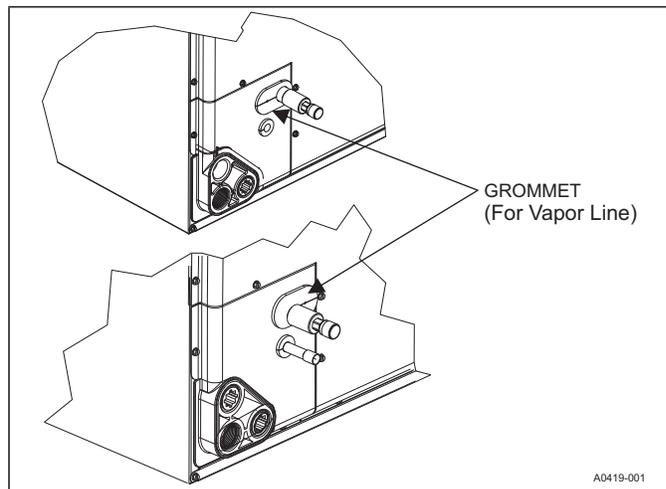

FIGURE 21: Vapor Line Grommet
- Remove grommets where tubes exit the cabinet to prevent burning them during brazing. In some units, the vapor line grommet may be shipped as a loose part with the unit. Refer to Figure 21.
- Re-attach the grommets to the lines carefully to prevent air leakage. In some units, the vapor line grommet may be shipped as a loose part with the unit. Refer to Figure 21.